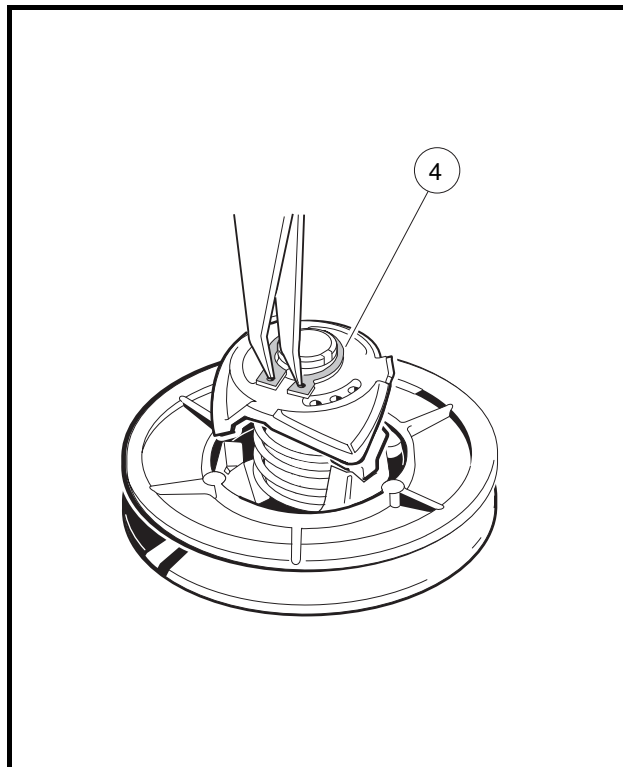

Figure 17-20 Remove Retaining Ring
1. Using external snap ring pliers, remove the retaining ring (4) (Figure 17-20, Page 17-14). See following **WARNING**.